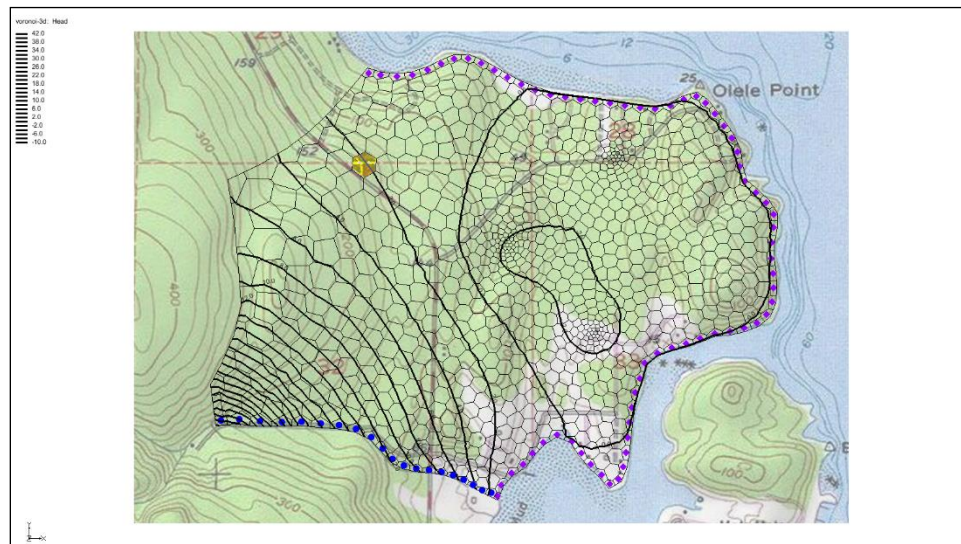

Figure 3 Select cell 886 in layer 1
1. Using the **Select Cells**  tool, select cell 886 as shown in Figure 3.